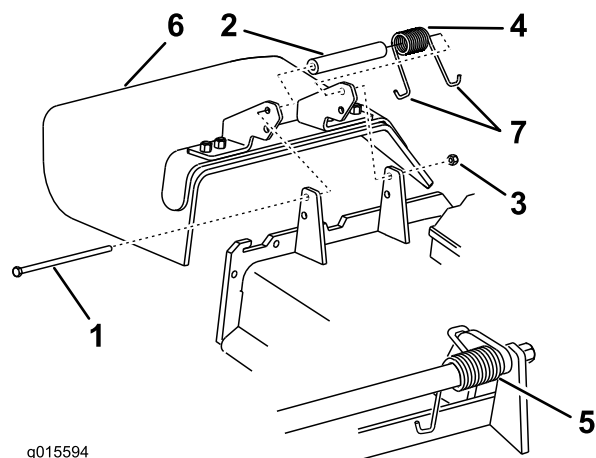

Figure 106
1. Remove the locknut, bolt, spring, and spacer holding the deflector to the pivot brackets (Figure 106).
2. Remove the damaged or worn grass deflector (Figure 106).
Note: Make sure that 1 J-hook end of the spring is installed behind the deck edge before installing the bolt as shown in Figure 106.
6. Place 1 J-hook end of the spring around the grass deflector (Figure 106).